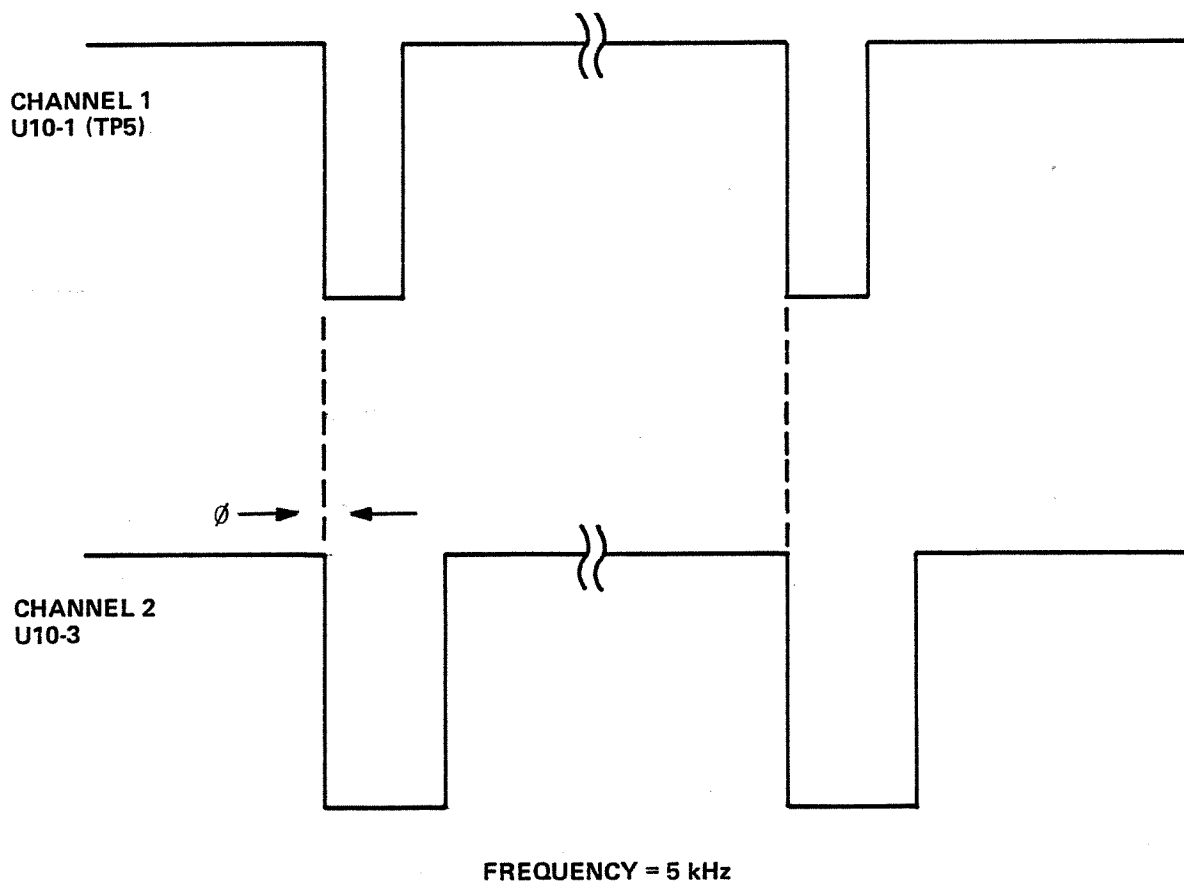

Figure 17-5. Phase Comparator Input Signals
4. Using the oscilloscope with Time Delay feature, connect Channel 1 input to U10 pin 1 and Channel 2 to U10 pin 3. Use 2V/CM vertical scale sensitivity. Place the A sweep Time Base to 50 uSec/CM and the B delayed sweep to 0.1 uSec/CM. Engage the Time Delay controls. The waveforms observed should be similar to Figure 17-5. Record results.